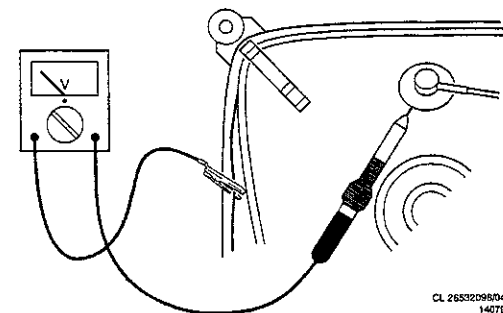

Fig. 3.1
1. In order to prevent damage to ICs and transistors, all high-voltage flash-overs must be avoided. In order to prevent damage to the picture tube, the method shown in Fig. 3.1 should be used to discharge the picture tube. Use a high-voltage probe and a multimeter (position DC-V). Discharge until the meter reading is 0V (after approx. 30s).